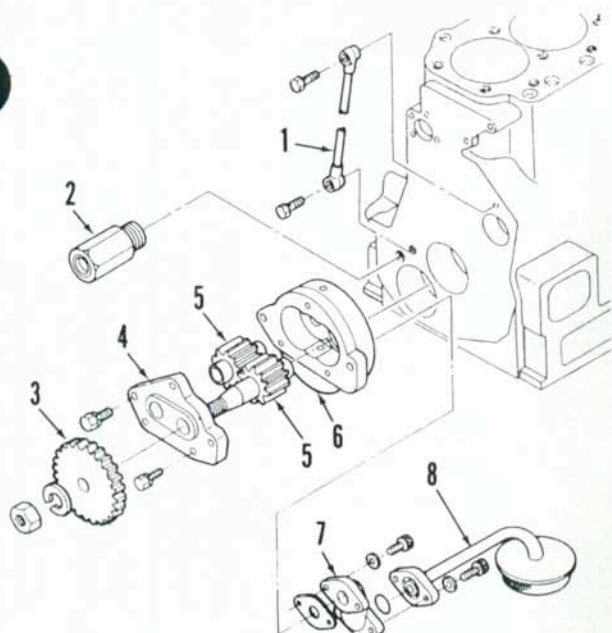

Fig. 108—Exploded view of gear type engine oil pump assembly typical of 1500, 1700, 1900, 1910 and 2110 models.
The timing gear case must be removed as outlined in paragraph 35 for access to pump gears. Remove drive gear (3—Fig. 108) and front cover (4), then withdraw pump gears (5). Pump housing (6) can be removed from the front after engine oil pan and oil pickup tube are first removed.
The engine oil pressure relief valve (2—Fig. 108) is serviced as an assembly and is not adjustable. Relief valve opening pressure should be 241-393 kPa (35-57 psi) at 2600 engine rpm with oil temperature at 80° C (175° F). Minimum oil pressure at idle speed is 117 kPa (17 psi).